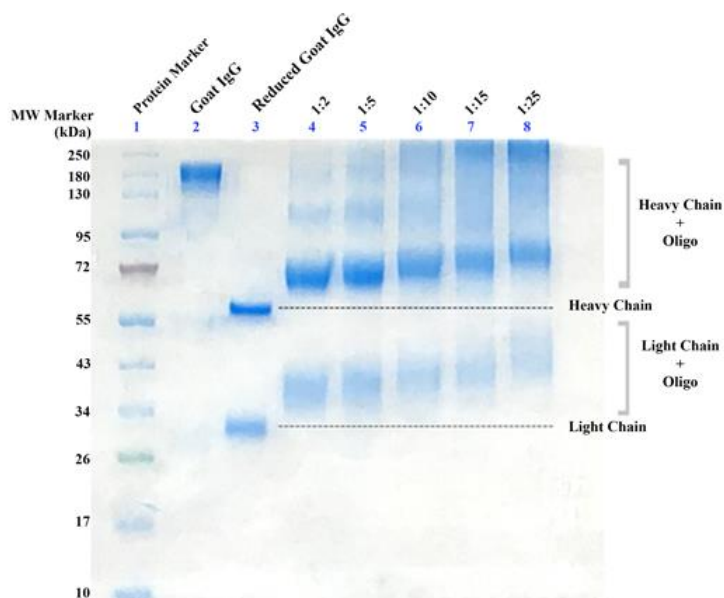

Fig 2. Gel image of oligonucleotide-antibody conjugates
3. Stain for protein using Coomassie Blue stain or a suitable equivalent. After destaining, the gel can be analyzed for the presence of antibody-oligo conjugates. A typical gel image of control IgG-oligo conjugates is shown in Fig. 2.